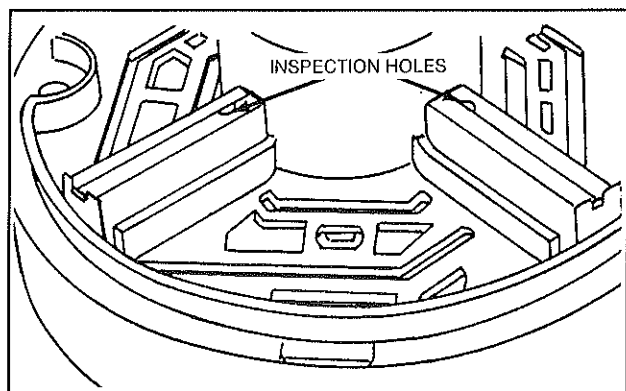

**Fig. 15 – Checking Rectifier for Grounds**
1. With meter set the same as "Test Rectifier," place one test lead thru hole in brush box on metal case of rectifier. Touch other lead to points "A," "B," "C," and "D." There should not be continuity, Fig. 15 .